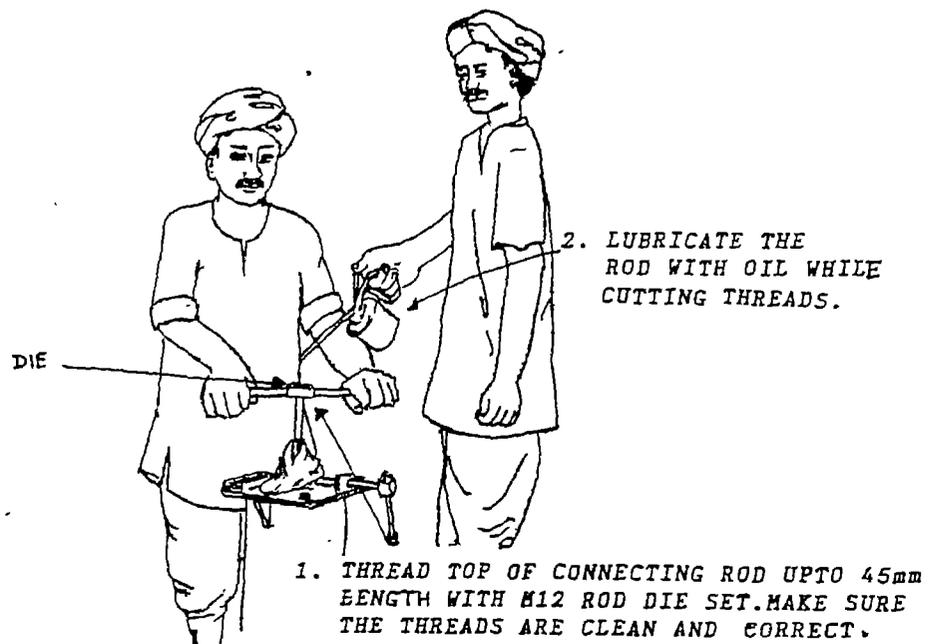

FIG:4.36 MAKE THREADS ON THE TOP MOST END.)
- xv) Make necessary threads on the top most end of connecting rod. (Fig. 4.36)